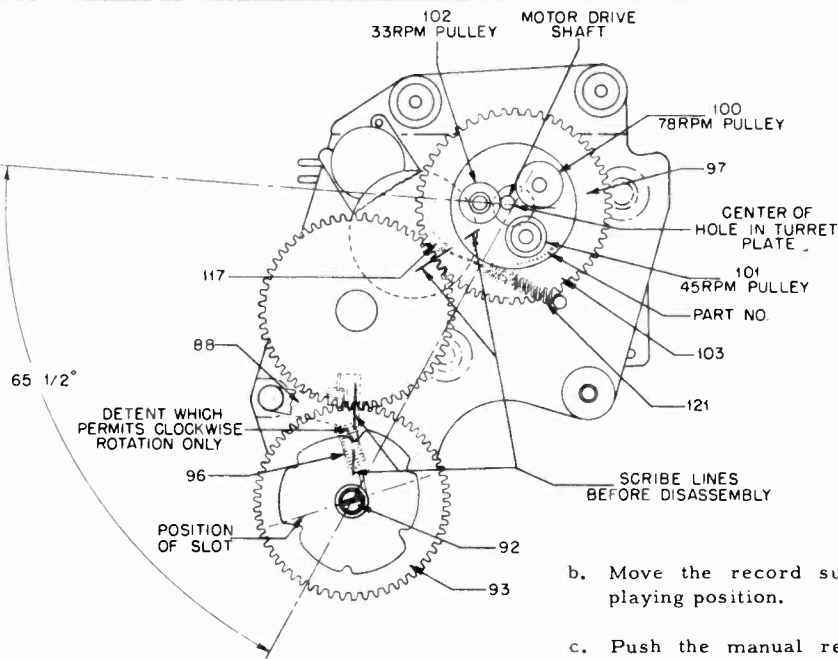

FIGURE 14. MOTOR GEAR TRAIN ASSEMBLY
CAUTION: Do not disassemble the speed changing mechanism without first marking the positions of turret assembly, the speed change gears, and the speed change cam, as shown in Figure 14. But, if the turret has been removed accidentally, or if the above precaution has not been taken, the assembly procedure is as follows (refer to Figures 9 & 14).
1. Assemble the speed control pulleys (100), (101), (102) to the turret plate (97A). They are snapped over the pulley shafts, and they can be pried off with a screwdriver. Note that the 45 RPM pulley is adjacent to the part number on the turret plate, as shown in Figure 14.
2. Attach the turret plate (97) and the speed change gear (103) to the speed control bracket with the turret spring washer (104) and the two machine screws (105).
3. Place the speed change shaft assembly (92) and the speed change gear (93) on the speed control bracket. Do not tighten the collar bushing (94) to the shaft.
4. Rotate the turret assembly until the correct angle is obtained between the center of the turret plate and the speed change shaft and 33 RPM speed control pulley, as in Figure 14. Use a combination square with a protractor, or other accurate protractor, for measuring the angle.
5. Lift the speed change gear (93) from the idler gear and rotate it until the slot in the shaft is in the direction shown in Figure 14 and the speed detent pawl (88) falls into the detent in the speed change cam (92A). There are two detents, on opposite sides of the cam, into which the pawl may fall. The correct detent is the one which will permit clockwise rotation only of the speed change shaft.
6. Tighten the setscrew (95) in the collar bushing (94).
7. Attach the motor (106) to the studs on the speed control bracket with the "C" washers (113).
8. Attach the tension springs (121), (96), (115). Note that the idler wheel spring (121) hooks into a soldering lug (117) under the idler wheel.